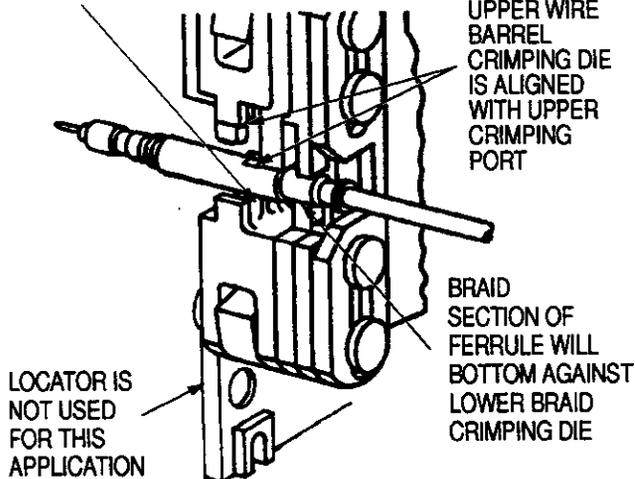

Figure 5
A. Hand Tool Application (Figure 5)